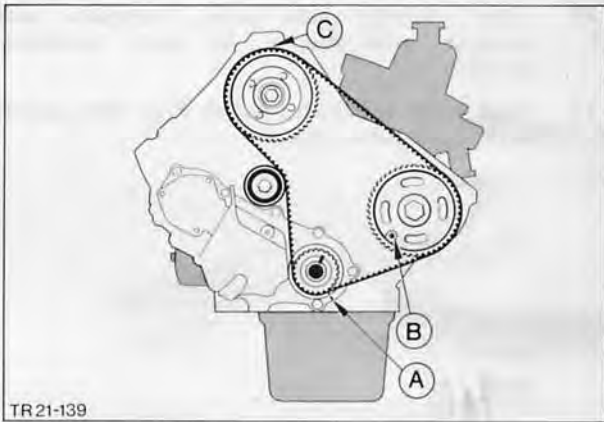

Fig. 152. Toothed belt pulley markings
27. Check markings on crankshaft, camshaft and injection pump, Fig. 152, using timing peg 21-016.